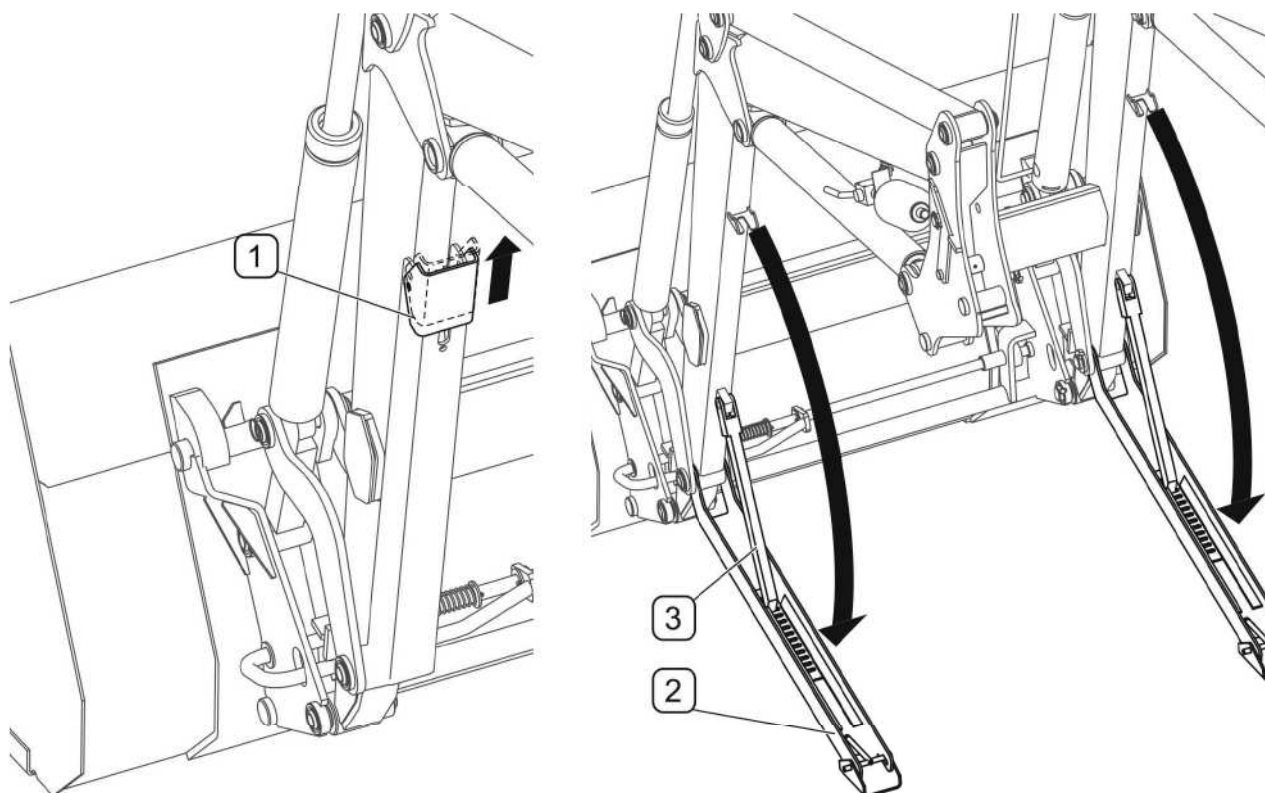

FIG. 4.33A Parking supports
- pull out foot blocks (1) (FIG. 4.33A);
- lower parking supports (2) together with catches (3), onto the ground;